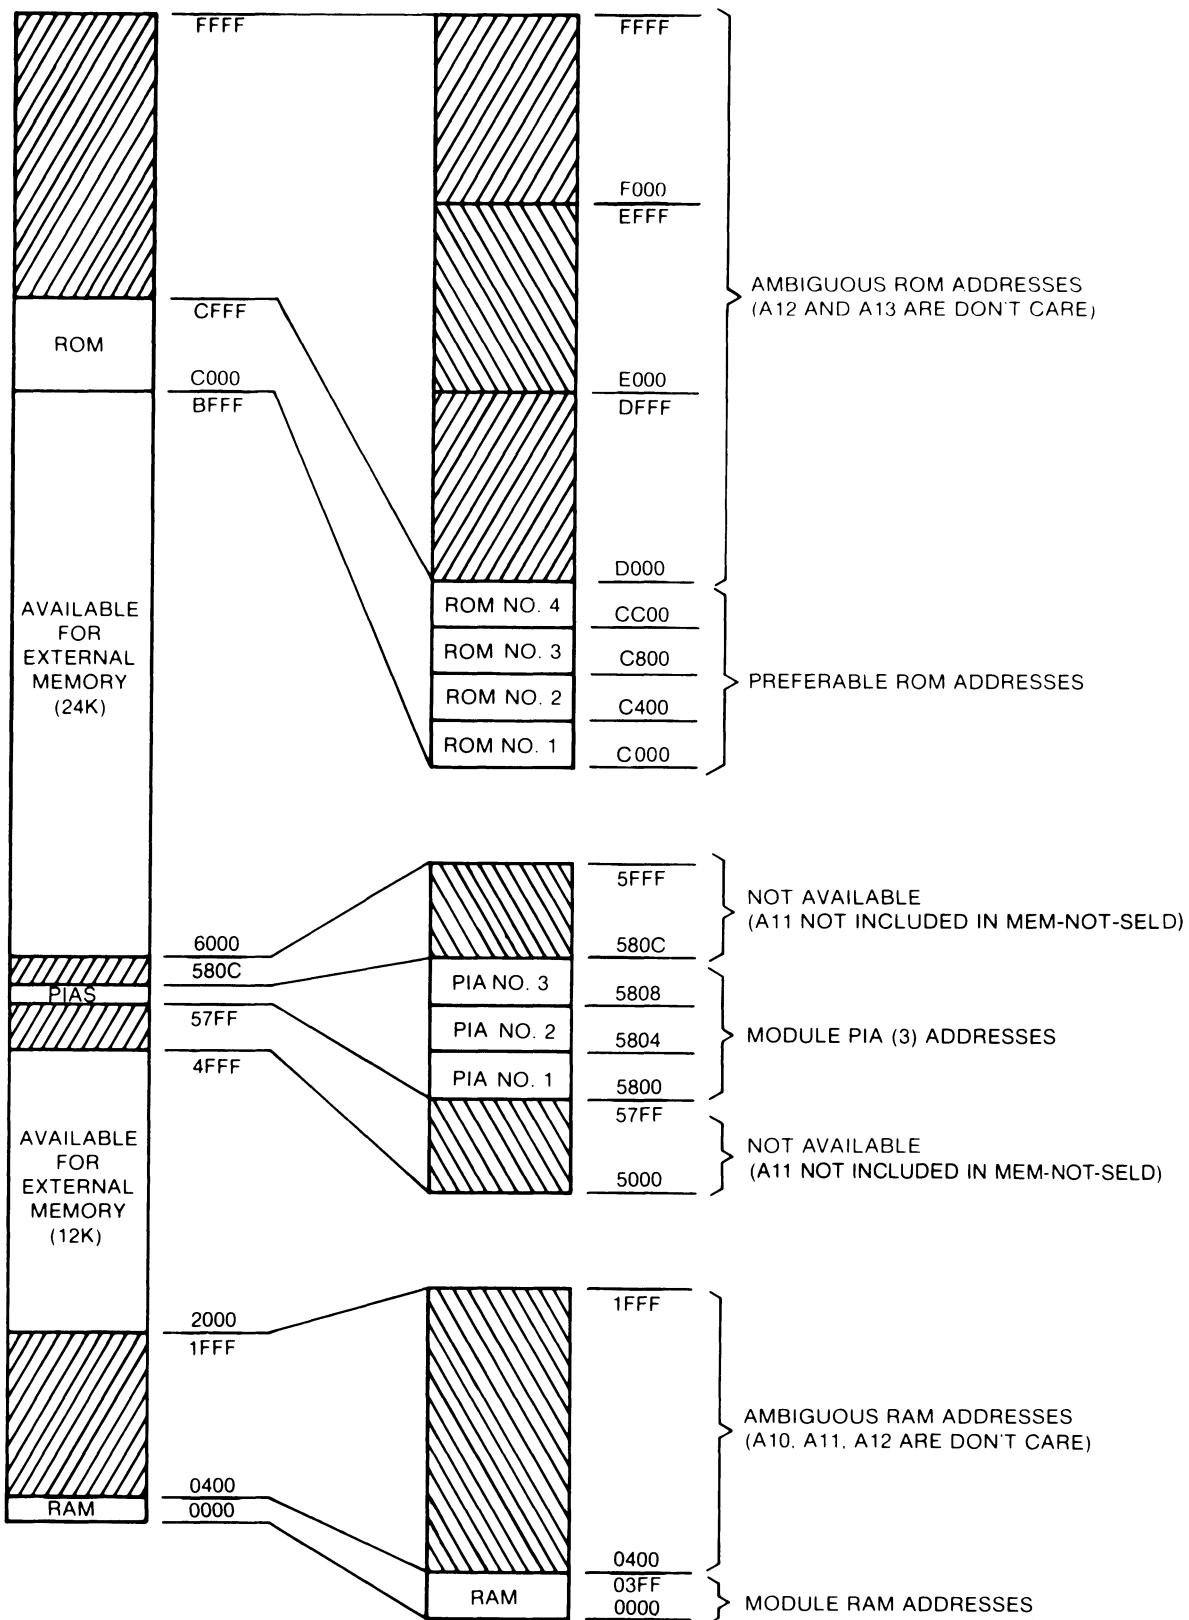

Figure 1-2. Monoboard Microcomputer 1 Address Map
The 16-bit MPU address bus is decoded on the board and provides RAM (0000-03FF), the three PIA's (5800-580B) and ROM (C000-CFFF) addresses. Since these addresses are not fully decoded, there are certain nonavailable ambiguous addresses as shown in Figure 1-2. If additional Micromodules are to be used with Monoboard Microcomputer 1, their address must be selected to fall within the available memory locations(2000-4FFF and 6000-BFFF).
- d. Additional Micromodules, if used, must be assigned available addresses as shown in Figure 1-2.